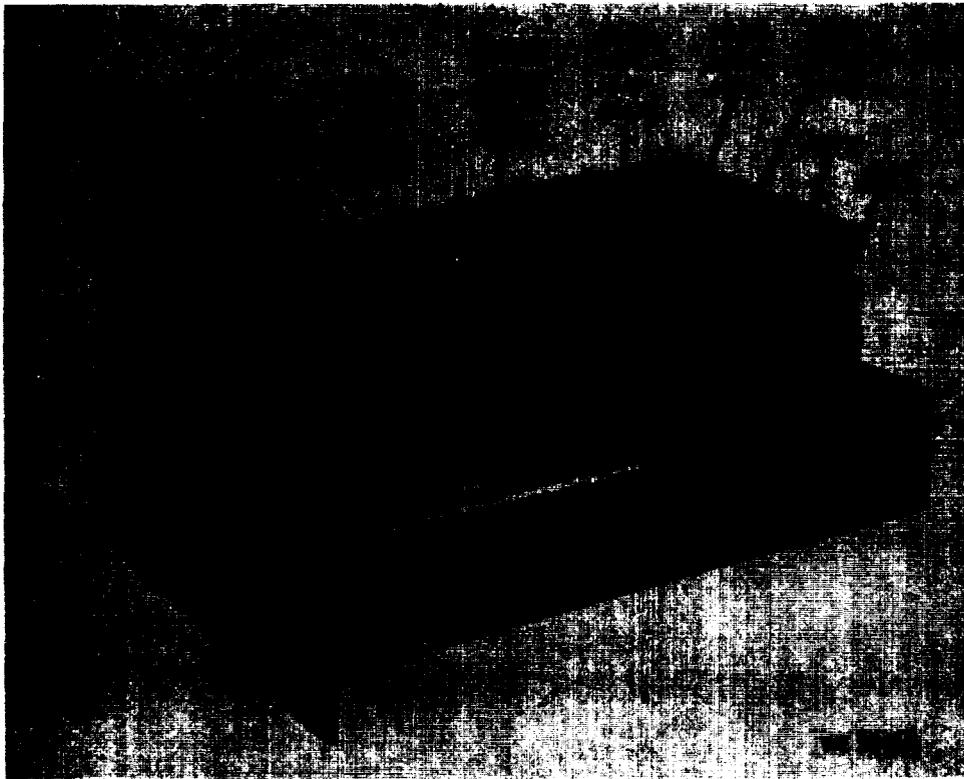

Figure 1-7. Indicator digital display A5.
d. *Indicator Digital Display A5.* (fig. 1-7). This assembly is located at the upper left hand side of the rear cabinet section. The assembly contains 19 plug-in modules. For easy identification of the divider and decade counter modules, the divider modules (and the adjacent chassis surface) are painted orange (with the exception of A5A17 which is painted black). Also located on top of the chassis are two plug-in crystals A5Y1 and A5Y2 which are used with A5A7 and A5A10 respectively. Located at the end of the chassis is potentiometer A5R7 which is used for setting the calibration signal level.